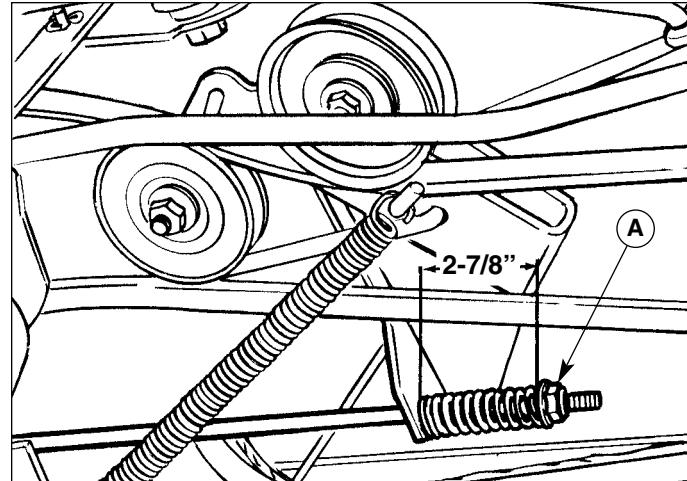

Figure 13. Tuff Torq K60 Clutch/Brake Rod
2. The brake spring should be compressed to a length of 2-7/8". Turn the adjustment nut (A, Figure 13) to increase or reduce spring tension until correct spring length is reached.